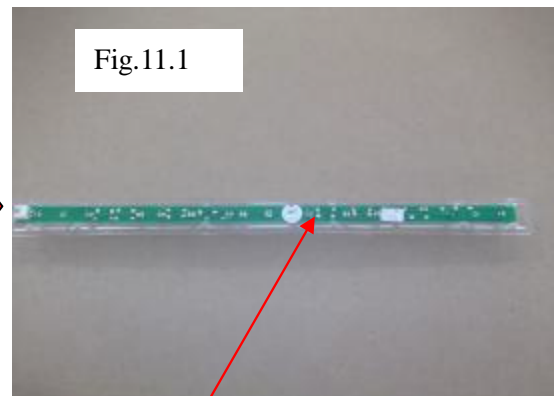

Fig.11.1
- (3) Remove the LED light PCB fixing screws and remove the LED light. (Fig.11.1)